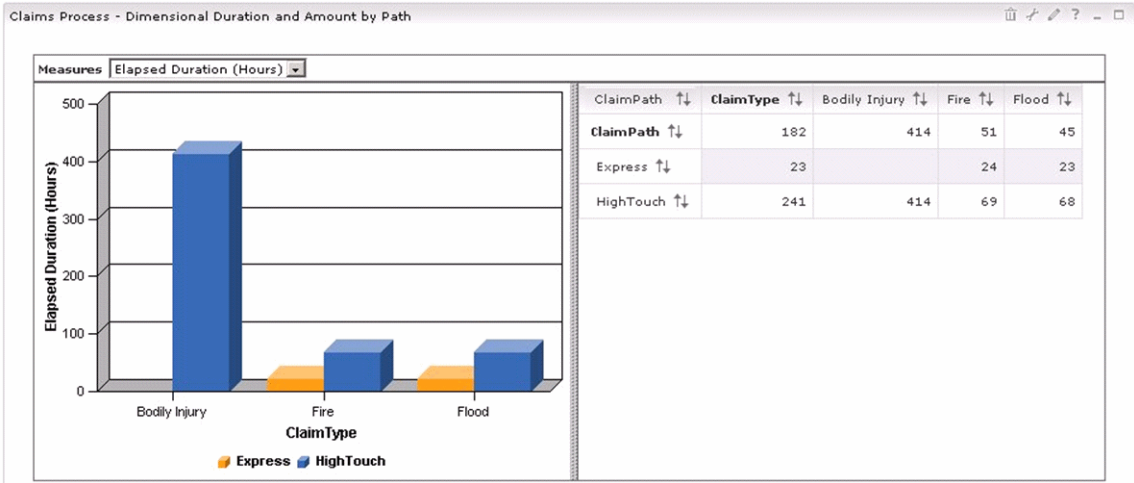
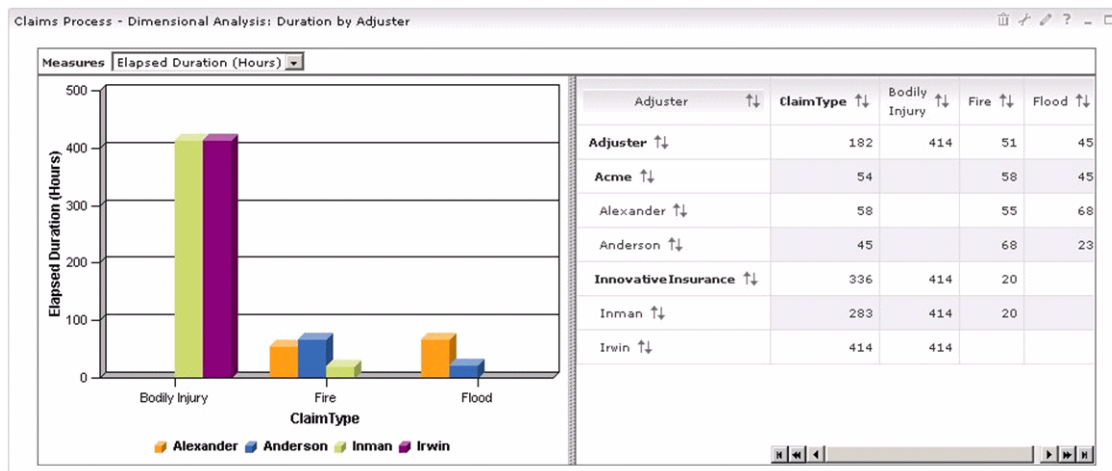

Figure 46 Basic Reports view
Figure 48 Dimensions view
- **Basic:** This graph displays the values of the KPIs (Figure 46).
This view allows users to generate multidimensional reports that analyze different business aspects on historical business performance data. For example, Figure 48 shows a drill down of the data shown in Figure 46 on page 77.